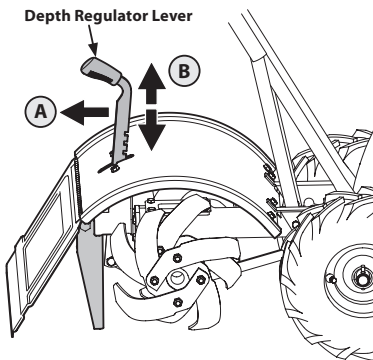

Figure 14
3. Move the depth regulator lever all the way down to the “travel” position, so that the tines clear the ground. To change the depth setting, pull back on the depth regulator lever (A) and lift up or down (B), then release the lever (C) to secure in the desired position. See Figure 14.